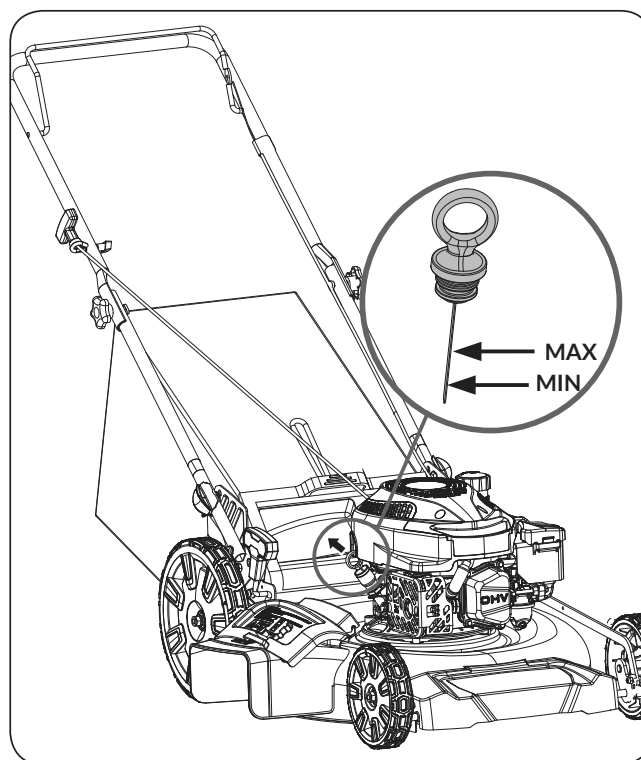

Figure 15
- Remove the dipstick by rotating the cap counterclockwise and pulling it out. (See **Figure 15**)
- Read the oil level on the dipstick. (See **Figure 15**)